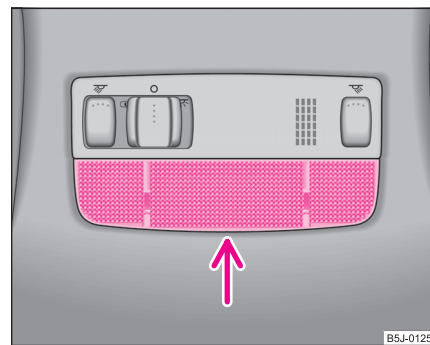

Fig. 176 Remove interior light
- Pull the diffusion disk (see arrow) downwards from the housing ⇒ fig. 176.